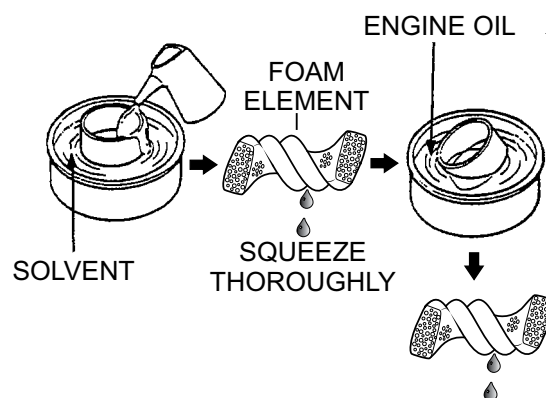

Figure 30. Cleaning Foam Element
3. Clean foam element in warm, soapy water or nonflammable solvent (Figure 30). Rinse and dry thoroughly.